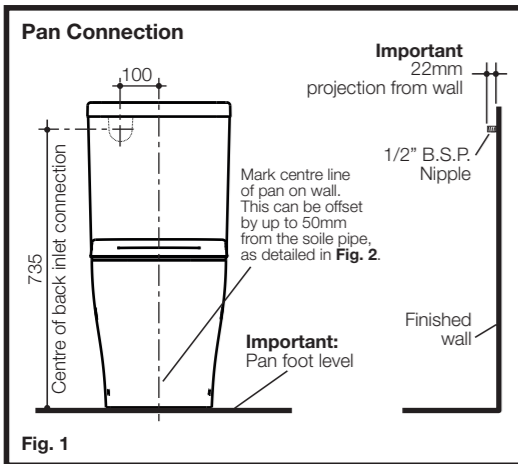
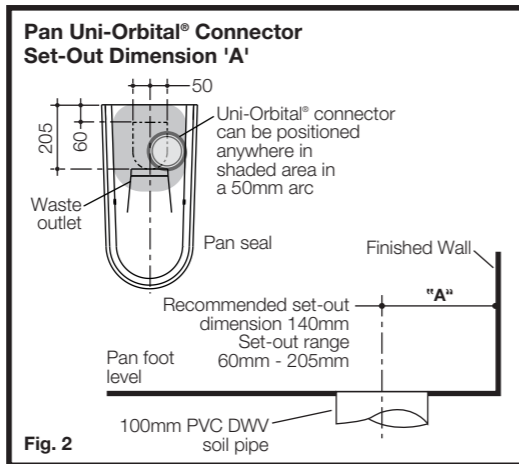
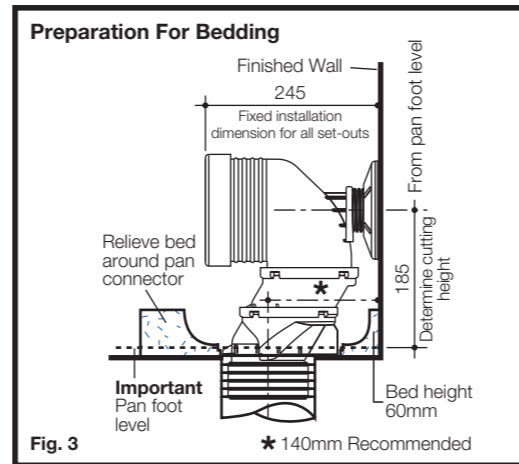
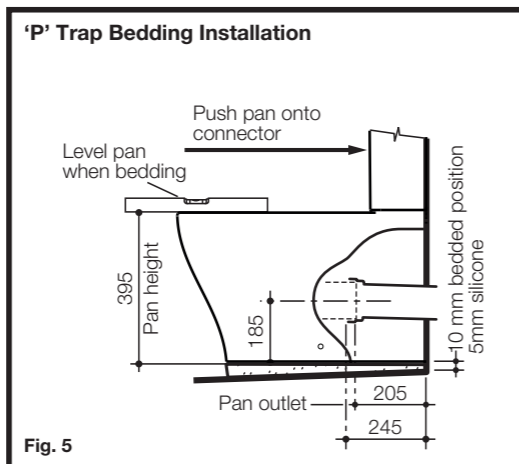

Fig. 1
Fig. 2
Fig. 3
Fig. 5
The Luna Cleanflush® pan is universal for both 'S' and 'P'-Trap installations as detailed. The recommended set-out for 'S'-Trap installations is 140mm from the finished wall with set-out flexibility for existing soil pipe positions ranging from 60mm to 205mm and 50mm sideways adjustment with the Uni-Orbital® connector supplied, as detailed in Fig. 2.
- 1- Mark centre line of the pan on finished wall, as detailed in Fig. 1. This is to be used as a guide when connecting the pan. The centre line can be offset by up to 50mm from the soil pipe, as detailed in Fig. 2.
- 2- Determine set-out "A" of existing pan connector, as detailed in Fig. 2. Set-out range 60mm - 205mm. Recommended set-out 140mm, as detailed in Fig. 3. For 'P' trap installation see Fig. 5.
- 4- Prepare bedding sand cement mixture 3:1 to depth of 60mm as detailed in Fig. 3. **Note:** Do not fill the foot of the pan with bedding mix or include lime or fast drying cement into the mix, these may cause cracking in the foot of the pan.